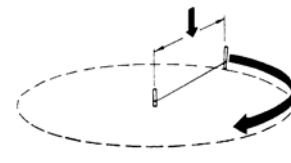

Figure 1.1
- With a string and a can of spray marking paint, draw a circle that is 12-inches (30cm) greater in radius than your pool. Refer to (figure 1.1) and the "diameter table" in your pool specific instruction sheet to know the real pool radius.